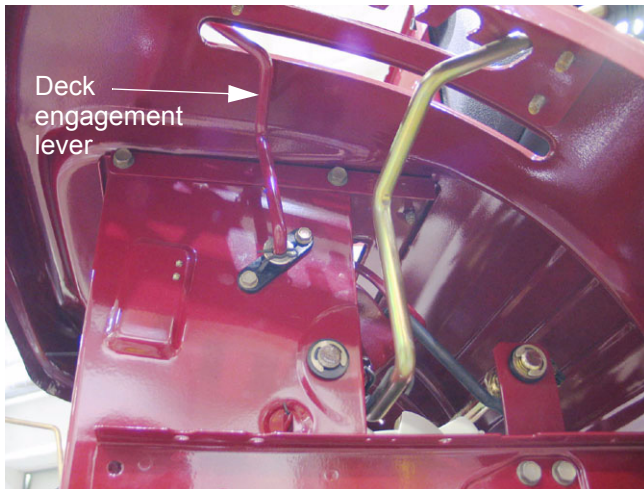

Figure 4.1
- 4.1. The deck engagement lever is supported by a two-piece bushing under the right fender. See Figure 4.1.